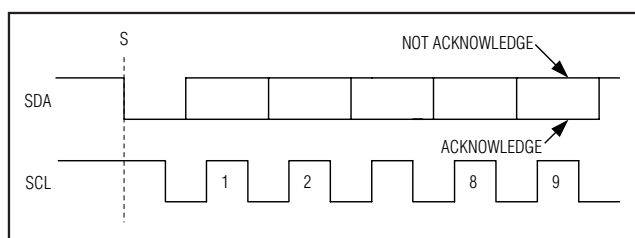

Figure 6. Acknowledge Bits
Successful data transfers are acknowledged with an acknowledge bit (A) or a not-acknowledge bit ( $\bar{A}$ ). Both the master and the MAX11600–MAX11605 (slave) generate acknowledge bits. To generate an acknowledge bit, the receiving device must pull SDA low before the rising edge of the acknowledge-related clock pulse (ninth pulse) and keep it low during the high period of the clock pulse (Figure 6). To generate a not acknowledge bit, the receiver allows SDA to be pulled high before the rising edge of the acknowledge-related clock pulse and leaves it high during the high period of the clock pulse.